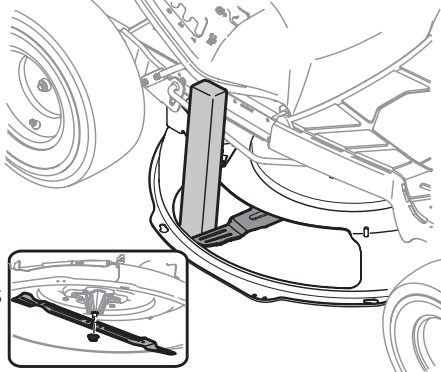

Figure 21
2. Using a block of wood or 2 x 4, insert it into the deck opening and rotate the blade around until it wedges the wood between the deck opening and the cutting blade, as shown in Figure 21.